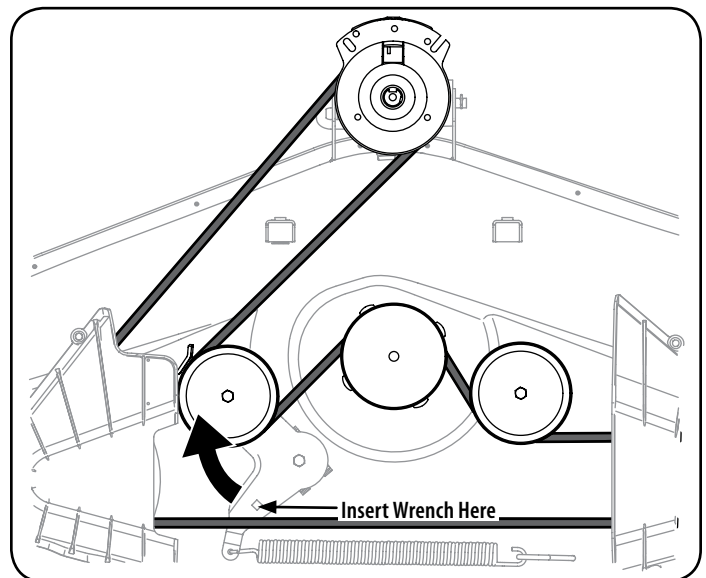

Figure 26
- c. Working on the right side of the tractor, insert a $\frac{3}{8}$ " drive ratchet wrench, set to tighten, into square hole found on the idler bracket. See Figure 26.
- Use the wrench to pivot the deck drive pulley forward. See Figure 26.